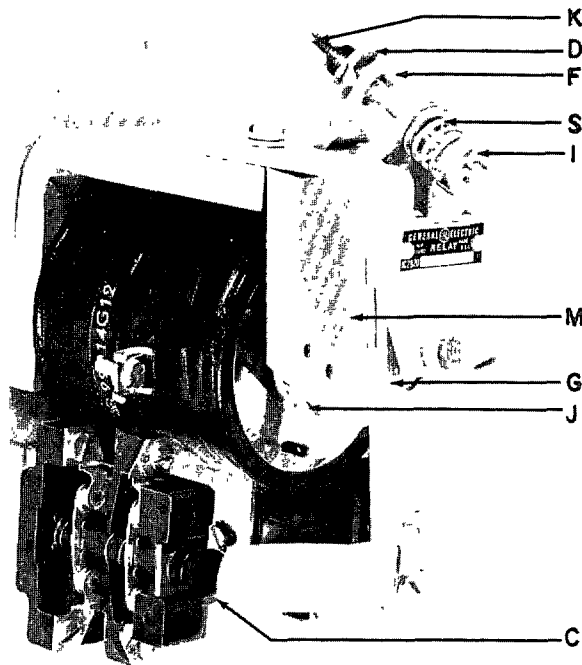

Fig. 2. DS2820B200A Four-circuit dc magnetic time relay.
The two principal adjustments of the relay are the shim (J), Fig. 2, and the armature opening spring (S), Fig. 2.
For the armature spring force (P1), the armature will release at time (T1), while if the spring force is decreased to (P2), a further decrease in flux is necessary before the armature releases, and the time delay is increased to (T2). Since the flux density in the magnetic circuit is above the point of saturation when the armature is closed, the time adjustment is substantially independent of the usual variation in line voltage. To adjust the spring force, remove cotter pin (K), Fig. 2, to free the adjusting nut. Replace after adjustment.
The armature gap is normally adjusted at the factory to give the gaps, measured at G (see Fig. 2) with the armature closed, as shown in the following table:
From Fig. 2 it may be seen that the armature (M) may be easily removed without disturbing the calibration,